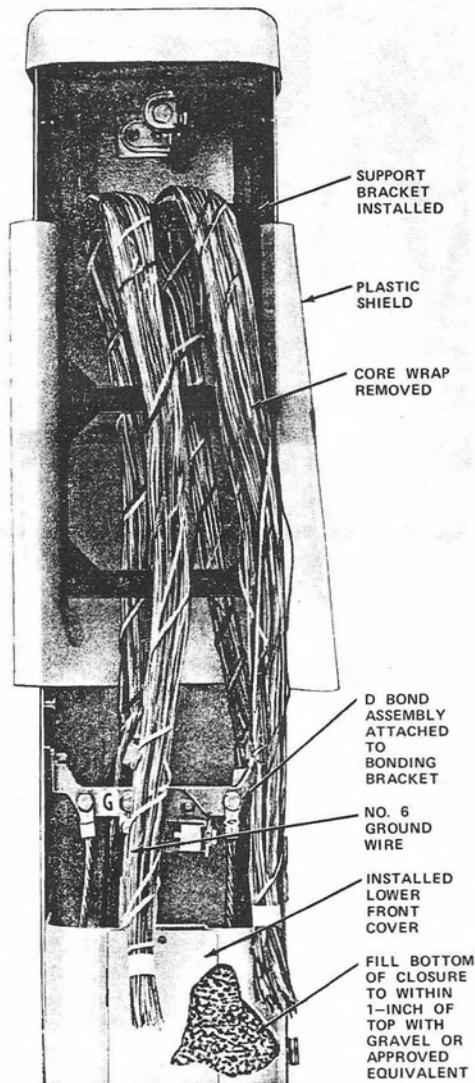

Fig. 18—Installed Cable Closure
5.04 Loosen nut and install D bond assembly on the cable as outlined in Section 081-852-118. Reinstall the bonding bracket and attach the D bond assembly to bonding bracket for completion of electrical bond as shown in Fig. 18.
6.04 When the closure is used to house a splice only, place the cable over the splice support as shown in Fig. 18. The backboard can be left off if necessary to accommodate splice bundle.